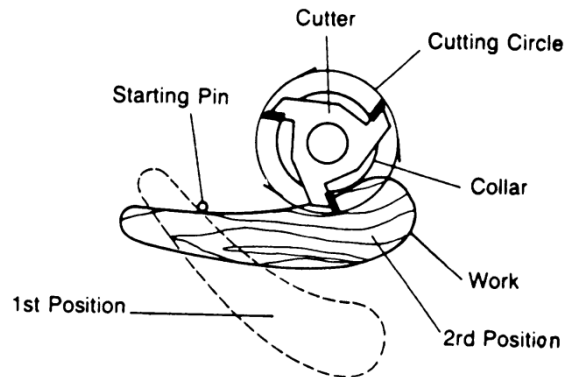

Figure 19
- Work should be placed in the first position using the guide pin as support, as shown in Figure 19. Then swing the work into the cutter as shown in the second position. The work will now be supported by the collar and starting pin.